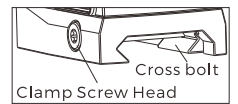

Fig 5
2. Using the included T10 Torx wrench loosen the cross bolt. Attach the sight onto the mounting rail in an appropriate position. Tighten the crossbolt to 20 INCH/lbs using a non-permanent (medium/blue) thread locker. (Fig5)